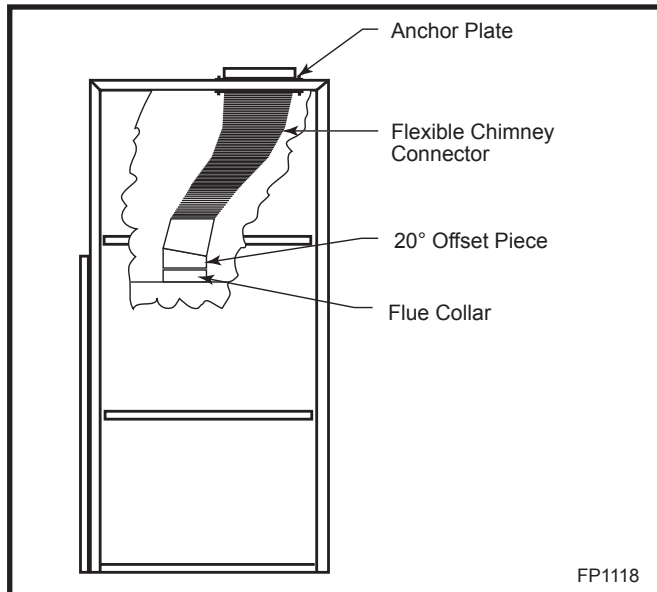

Fig. 40 Proper position of the chimney connector, offset slip piece and anchor plate.
2. Install the flex connector. Install the flex connector and attached flue flange to the underside of the cabinet top using eight #10-1/2" hex head sheet metal screws. The connector should point forward with the long axis of the oval running from side to side. (Fig. 40)